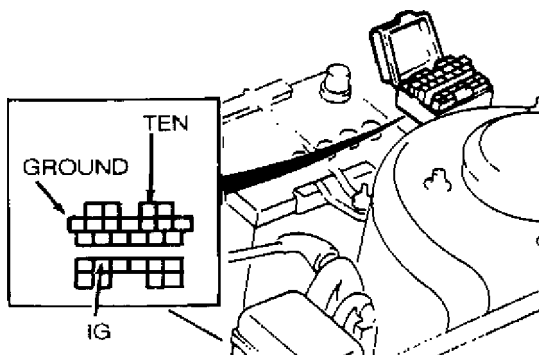

Fig. 3: Diagnostic Connector Terminal ID (Miata, MX-3, MX-6, Protege, RX7, 323, 626 & 929)
1) Connect Diagnostic Tester (49 B019 9A0) to diagnostic connector and select SELF-TEST mode (position 1), or connect jumper wire between diagnostic connector terminals TEN and GND. See Fig. 3.